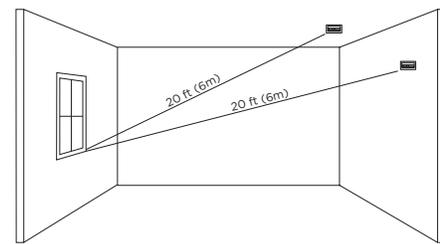

Figure 4: 1128INT Detection Range
- On the opposite wall of the window that it's protecting (see Figure 4 for detection range)